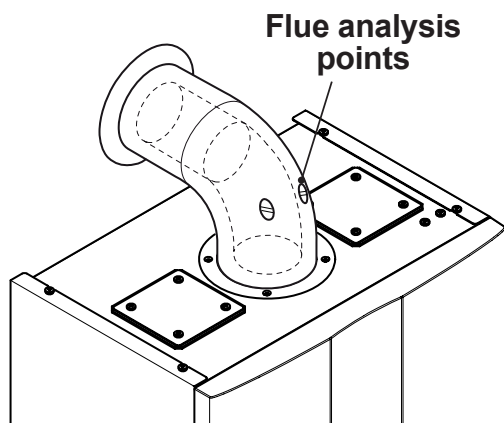

Fig. 9.15
- Connect a flue analyser to the flue analysis outlets on the flue exhaust of the boiler Fig. 9.15.
- Check the combustion of the boiler using the outlets located on the flue tubes (Fig. 9.15) and compare the data measured with that following.